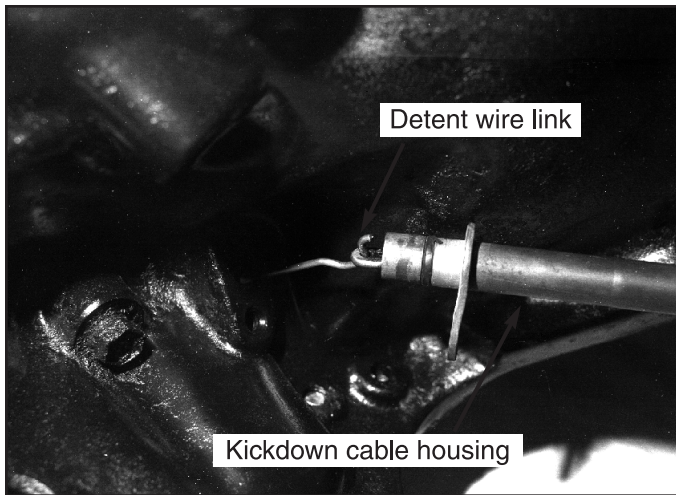

Figure 1
**TH-350:** Disconnect kickdown cable at carburetor. Remove retaining bolt from kickdown cable at transmission. Pull cable out of transmission and disconnect cable from detent wire link. (see fig. 1) Allow cable to hang free.
**TH-350:** Connect kickdown cable to detent wire link at transmission. (see fig. 1) Push cable into transmission. Install retaining bolt and tighten securely. Connect cable end to carburetor. Adjust kickdown cable so full throttle coincides with maximum kickdown cable travel. B&M offers an adjustable kickdown replacement cable # 30287.